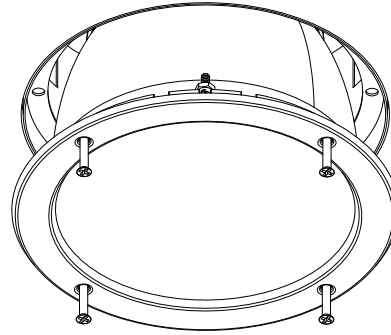

Figure 5
5. For trims with screws, insert the trim into the plaster ring and rotate until the four reflector screws pass into the four holes in the plaster ring. The four trim mounting screws are now aligned with the cage nuts in the plaster ring and may be tightened to secure the trim. See Figure 5.